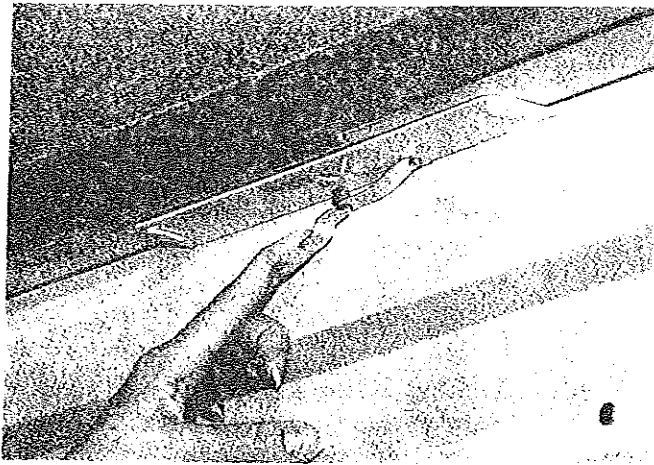
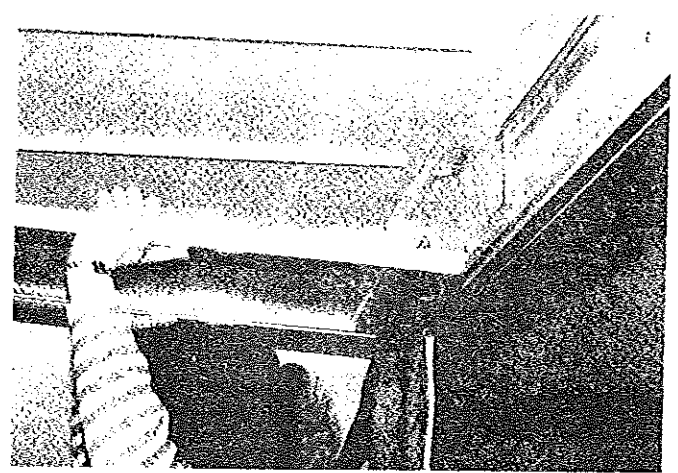

FIGURE 19
FIGURE 20
24. Standing at the door opening, pull down on the spring-loaded pin clip retaining the door frame and swivel clear of the engagement hole. See Figure 19. Standing at the door threshold, reach up and grasp the bottom of the screen door with both hands. Raise and push the door toward the far side of the trailer to release it from its retaining brackets. See Figure 20.